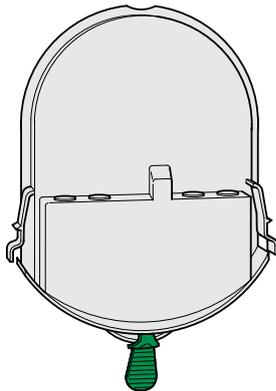

Figure 1. Adult Pad-Pak
1. Pad-Pak (gray color shown in Figure 1) for use on patients weighing over 55 lb/25 kg, or equivalent to a child of approximately eight years of age or older.